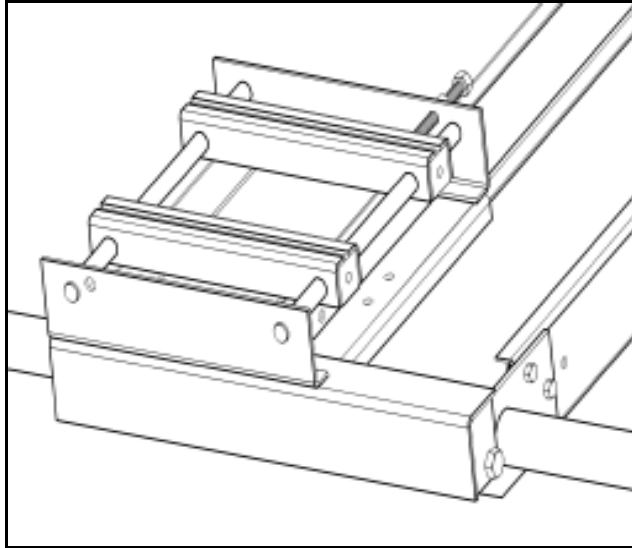

Figure 3.38 Electric Motor Mount Installation
1. Attach EMD mount assembly to frame with two 5/8" x 1-1/2" bolts and locknuts. Do not fully tighten; this acts as a pivot point (Figure 3.38).